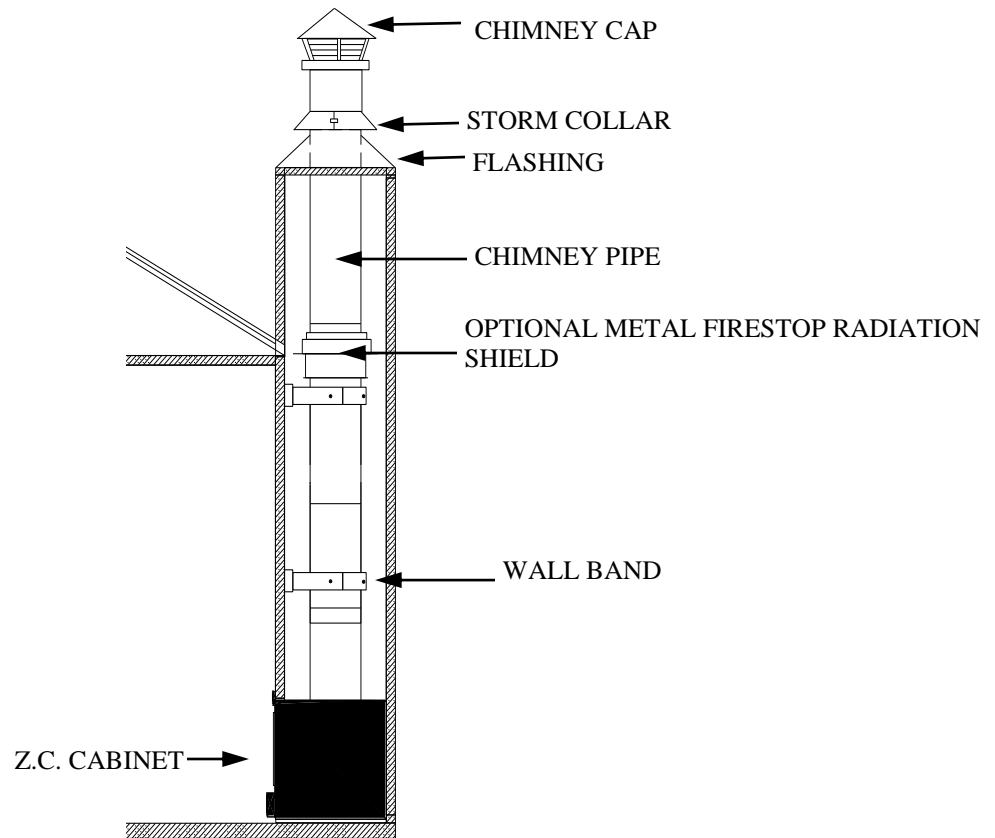
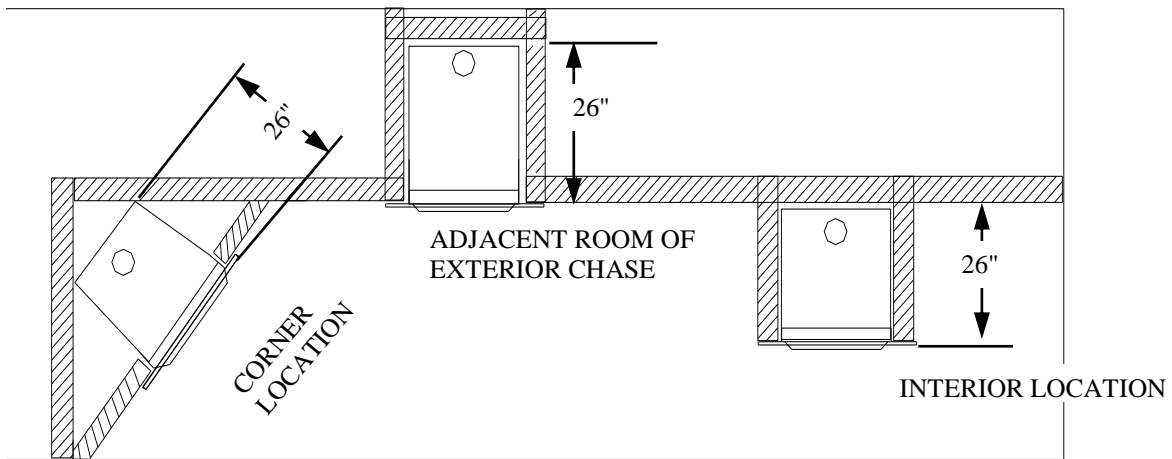
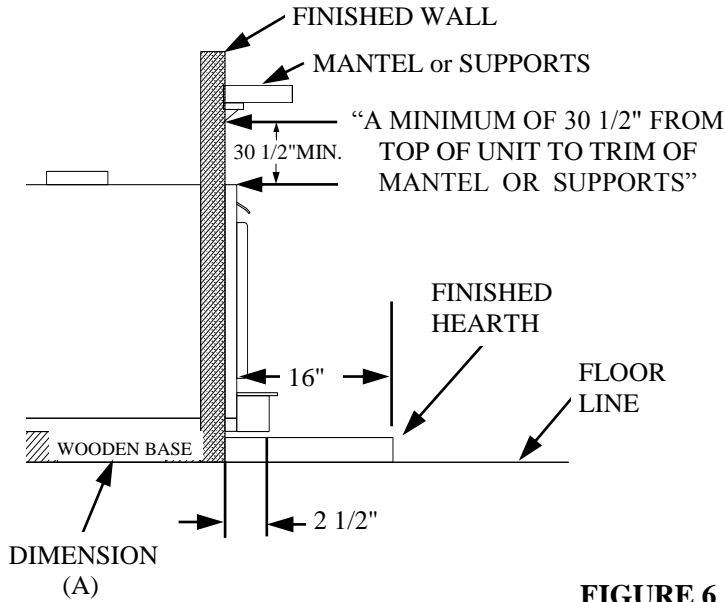
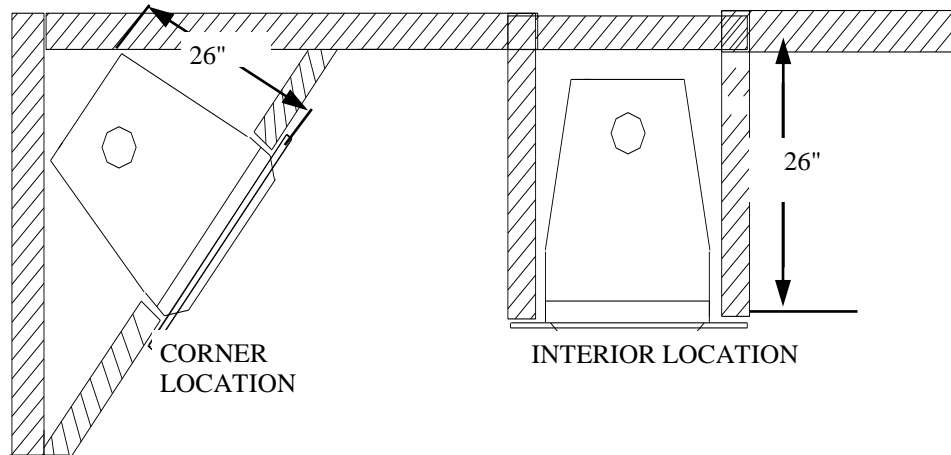

FIGURE 4 EXTERIOR WALL CHASE
FIGURE 5
FIGURE 6
FIGURE 12
- B. Exterior Chase Installation: (See Figure 4). A chase is an enclosure built specifically to house a chimney. The interior of a chase is open from Model 51ZC to the roof, eliminating the need to cut through ceilings and the roof. Normally, a chase is built through the wall, and the Model 51ZC is located in the bottom of the chase, with the front of the unit flush with the interior wall. Chases are commonly veneered on the outside with brick, stone or wood to give the appearance of a conventional fireplace flue. Occasionally, they are built inside and boxed in, similar to a stairwell. When making a chase installation, it is important to read the chimney manufacturer's instructions prior to building, as there are specific requirements for bracing a free standing flue that must be planned for. There are also occasions where offsets are used within a chase to accommodate unusual building designs, or to locate the Model 51ZC further into a room.
Above (Figure 5) are framing location examples with depth dimensions for some typical configurations. These are finished measurements so install accordingly.
The base for the Model 51ZC must be level with or slightly higher than the “finished” hearth height dimension (A) Figure 6.
Framing must be accomplished after the Model 51ZC is set in place. The chimney can be installed after framing, but installation is considerably more difficult and in some cases, impossible. Therefore, it is recommended that the chimney be installed prior to framing when a choice exists. Figure 5 on the previous page shows framing location examples with depth dimensions for some typical configurations. These are finished measurements so install accordingly.
3. Frame the ZC Cabinet using 2" x 4" studs or local building code framing. Some minor framing restrictions are required: Mantel Height (See Page 8 Figure 6)
- (A) Adjacent side walls must be at least 16" from the outer edge of the Cabinet trim panel.
- (B) The overall opening dimensions must be at least 37 1/2" wide and 34 3/4" high and 26" in depth.
- (C) 2"x 4" framing above the unit must be turned flat. This allows proper clearance from framing (2" minimum). (See Page 5 Figure 4.)
2. Layout the location on the floor for the ZC cabinet .(See Page 7 Figure 5.)
- b. 2" x 4" framing above the unit must be turned flat. This allows proper clearance from framing to chimney (2" minimum). (See Page 5 Figure 4, and Page 10 Figure 9)
Except as noted, the 51ZC can be installed almost anywhere you desire. There are, however, a few clearance and framing restrictions that must be followed. See Page 6, Figure 5, and Page 7, Figure 6, also Figure 12 to make sure that these clearance restrictions are met. It is much wiser to place your 51ZC correctly at the start of the installation than to be forced to relocate it after much of the work is done.